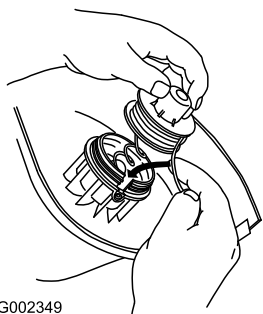

Figure 12
1. Holding the line and spool, insert the spool into the cutting head and the line into the eyelet (Figure 12).